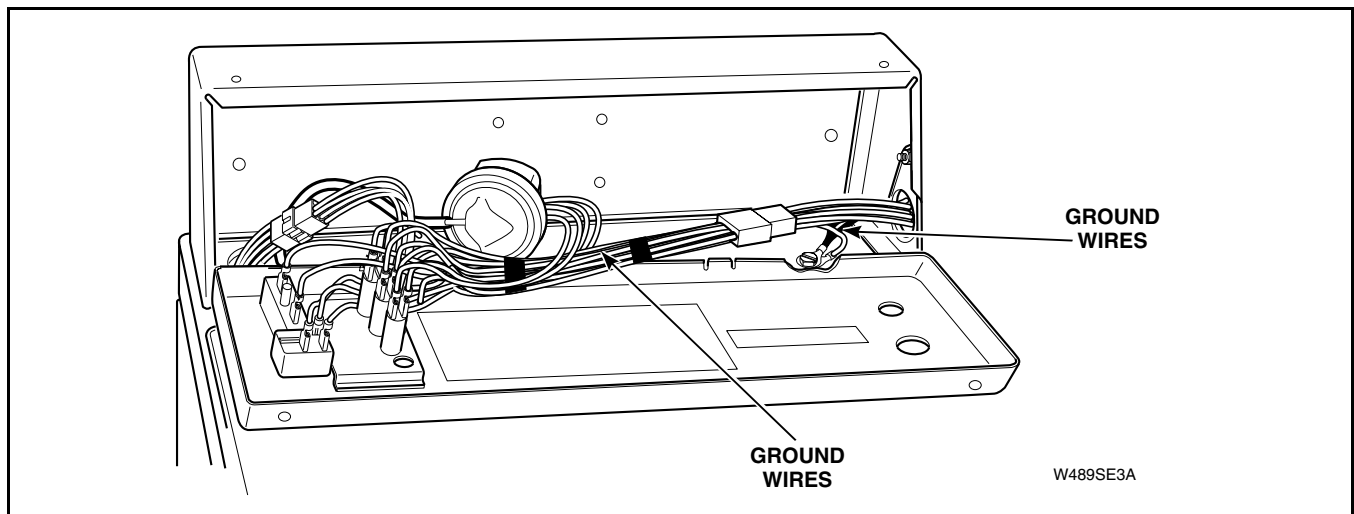

Figure 2
18. POWER CORD TO CONTROL HOOD, CONTROL HOOD TO THE CONTROL PANEL FRAME Refer to *Figure 2*.